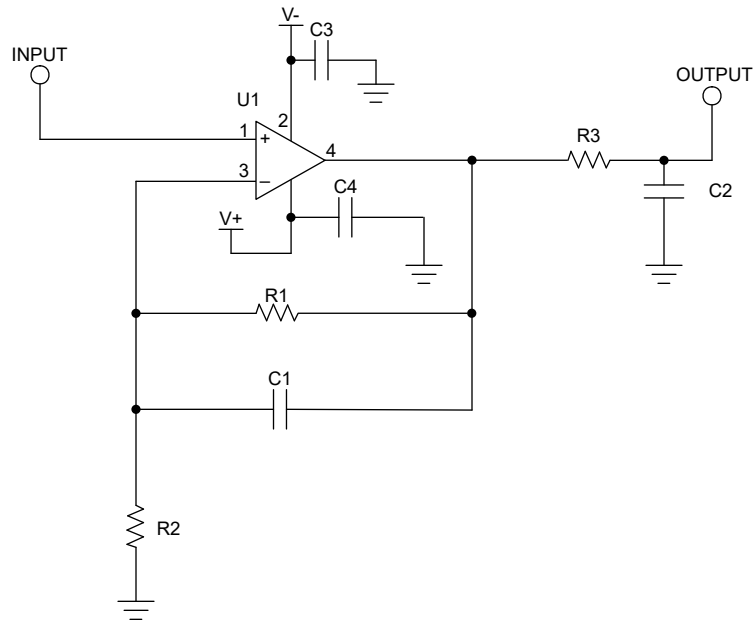

Figure 7-3. Schematic for Noninverting Configuration Layout Example
Place 0.1 $\mu\text{F}$  bypass capacitors close to the power-supply pins to reduce errors coupling in from noisy or high-impedance power supplies. For more-detailed information on bypass capacitor placement, see Figure 7-3.
- Place the external components as close to the device as possible. As illustrated in Figure 7-3, keeping RF and RG close to the inverting input minimizes parasitic capacitance on the inverting input.